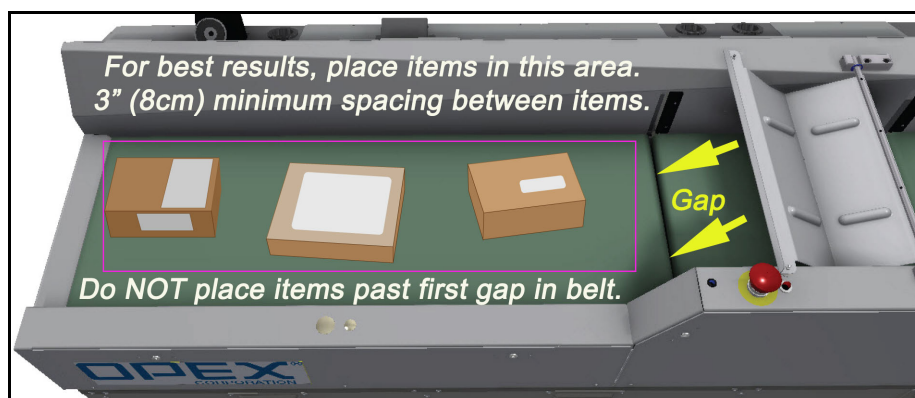

Figure 4-27: Conveyor “Drop Zone”
1. Place items on the pacing conveyor belt. Avoid overloading the belt. Items should be placed about 3” (8cm) apart from each other (see Figure 4-27).